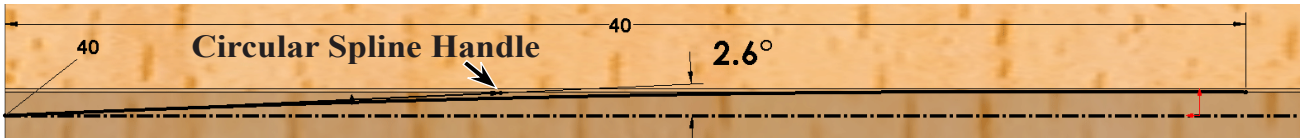

Fig. 24
Step 11. Dimension Spline Point 1 **Tangent Radial Direction 2.6 degrees**, Fig. 24. To dimension Tangent Radial Direction, click the **Circular Spline handle** ● and centerline, then move cursor between and click. Key-in 2.6 and press ENTER.